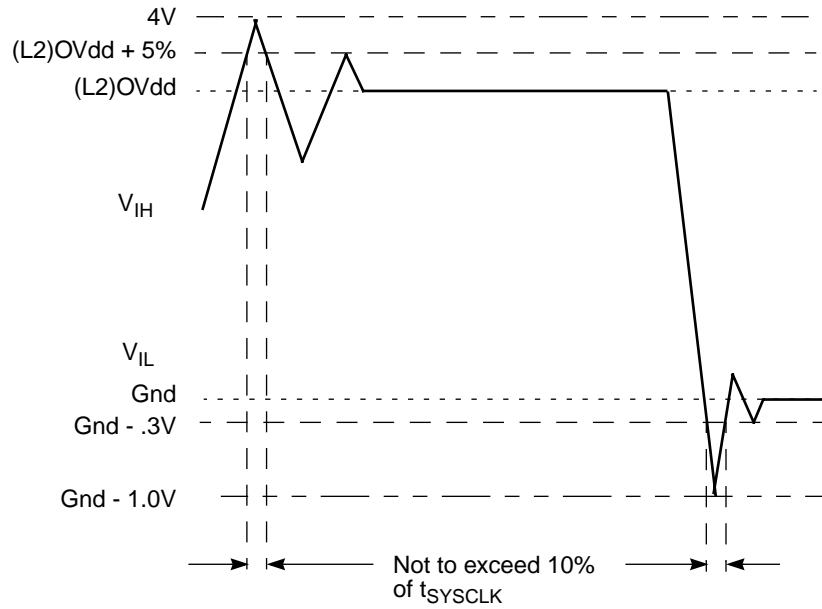

Figure 1. Overshoot/Undershoot Voltage
- V_{in} may overshoot/undershoot to a voltage and for a maximum duration as shown in Figure 1.
Figure 1 shows the permitted overshoot and undershoot voltage on the XPC750P.